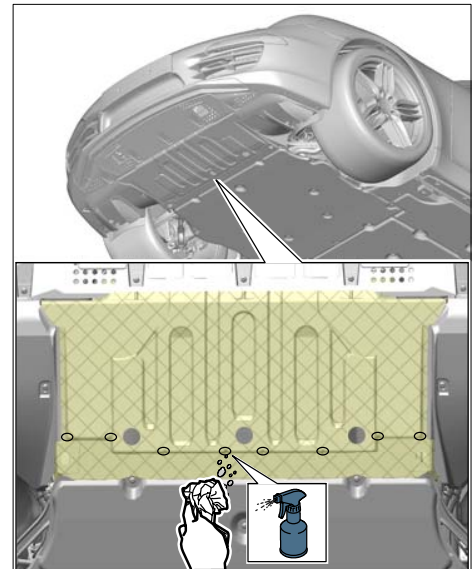

Figure 1
- 2 Clean the entire shaded area of the luggage compartment floor ⇒ *Figure 1* using a suitable cleaning agent (e.g. isopropanol) and a lint-free cloth.